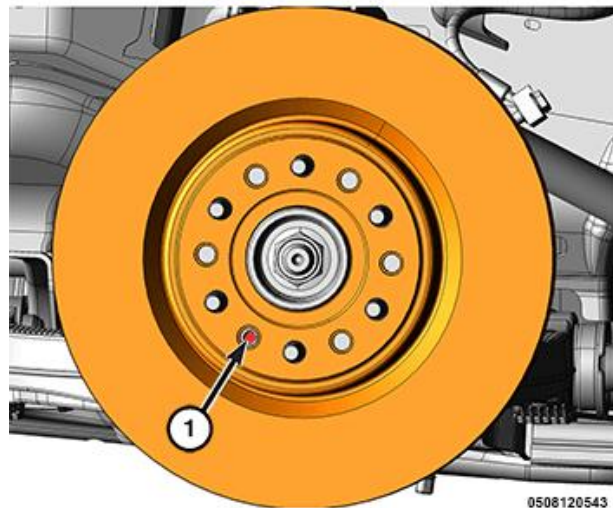

Figure 6 – Front Brake Rotor Bolt
13. Remove the front brake rotor bolt (1) (Figure 6).
17. Install the front brake rotor bolt (1) (Figure 6). Tighten to 10 N·m (7 ft. lbs.).